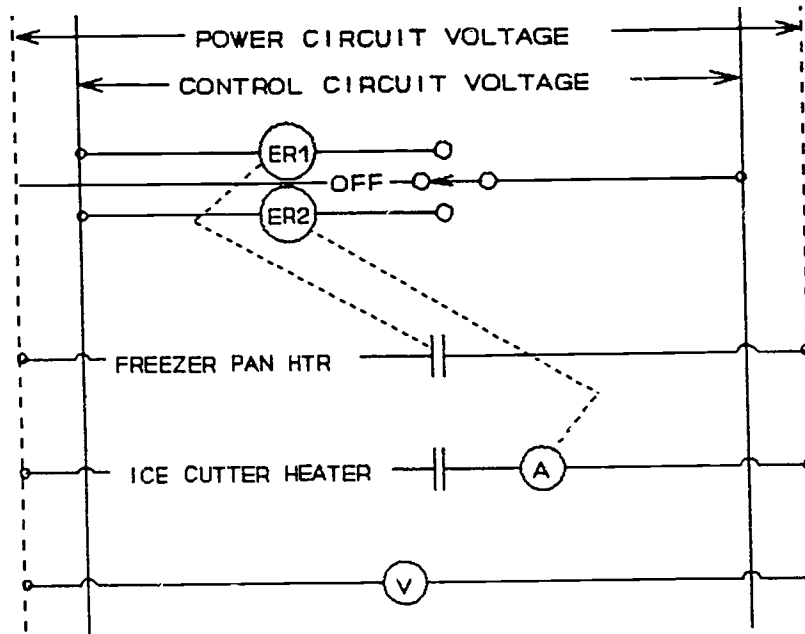

Figure C-5-5
1. Connect the control and power circuits, as shown in Figure C-5-5, "Ice Cutting Machine--Electrical Control and Power Diagram," and label the control switch positions accordingly. Note: The freezer pan heater will not be connected until step 6, when the ice block is ready for defrosting. Also, set up the ice cutting apparatus as shown in Figure C-5-6, "Ice Cutting Machine Assembly," without the freezer pan and its insulation.
6. Immediately place the full freezing pan of ice inside of its freezing pan insulator, upside-down on the freezing pan holder. Connect the wires of the freezer pan heater to the power circuit voltage as shown in Figure C-5-5. Remember, the freezer pan heater is composed of the wires that are glued to the outside bottom and sides of the freezer pan. Place the experiment insulation shield around the experiment setup.